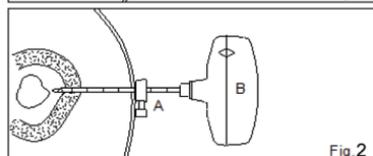

Fig 2
- FIG. 2** Move the depth gauge forward until in contact with the skin, then withdraw it by the desired depth, using the centimeter markings on the Cutting Cannula (A) to provide a visual guide.